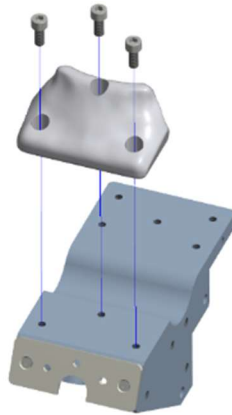

Figure 8-29. Attach the Coccyx (474-4546) to the bottom of the Center Pelvic Bone (474-4541)
- 8.3.2 Attach the Coccyx (474-4546) to the bottom of the Center Pelvic Bone (474-4541) using three M5 X 0.8 X 12 LG. SHCS (Figure 8-29).